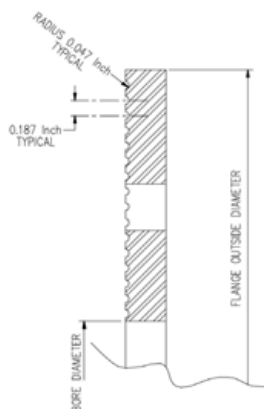
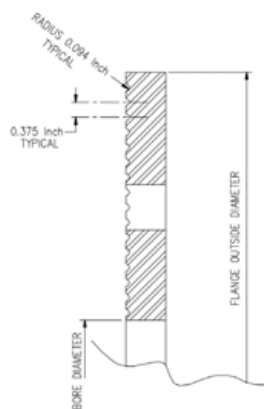

Figure 1 - Serrations for 2"-12" Flanges
Figure 2 - Serrations for 14"-30" Flanges
1. Check the flange faces of the pipe for rough/damaged areas. Pipeline flanges must be flat faced (NOT raised face), properly spaced, and parallel to achieve a proper seal. The flat flange face should be serrated as shown in Figure 1 (2-12 inch valves) or Figure 2 (14-30 inch valves). DO NOT mate DX Valves directly to expansion joints, or other compressible flange connections, such as a rubber flange connection.